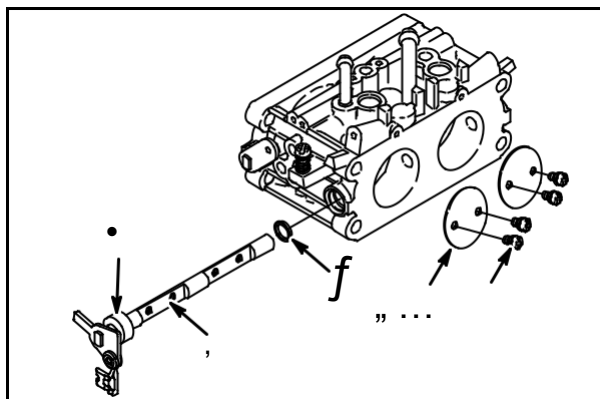

Fig. 68
Install new throttle shaft seal (3) with sealing lip out, **Fig. 68**.